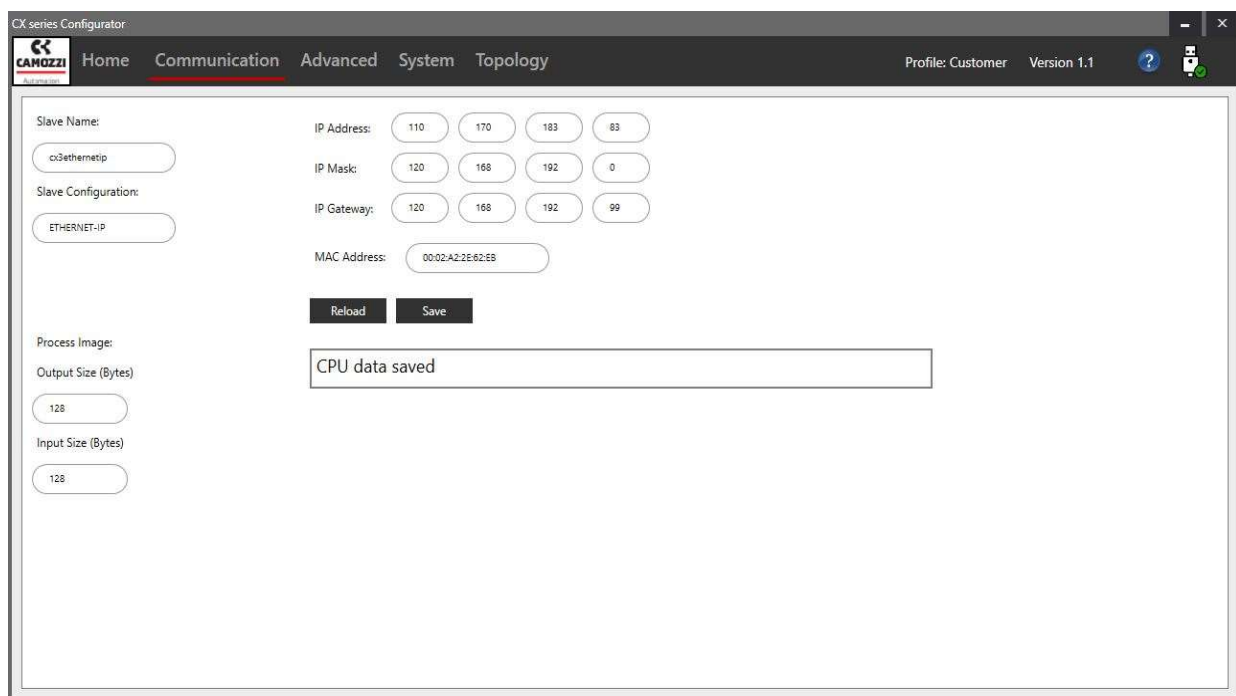

Figure 16: Change the IP address
3. Selected the IP cell and insert the new one (figure 16).